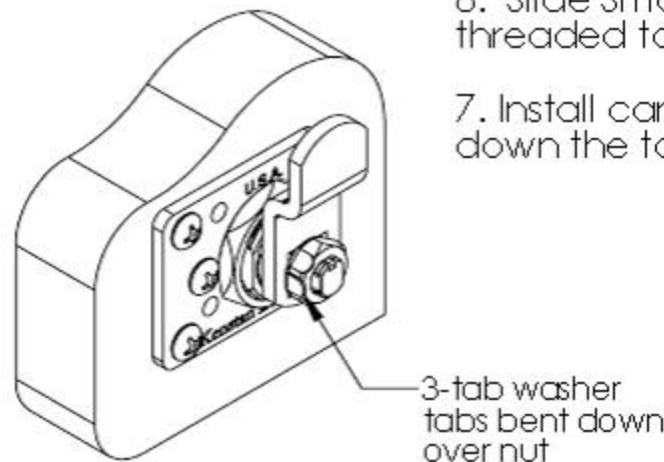

Figure 4: small 3-tab washer
7. Install cam hex nut and tighten. Then fold down the tabs on the 3-tab washer (See Fig. 4).